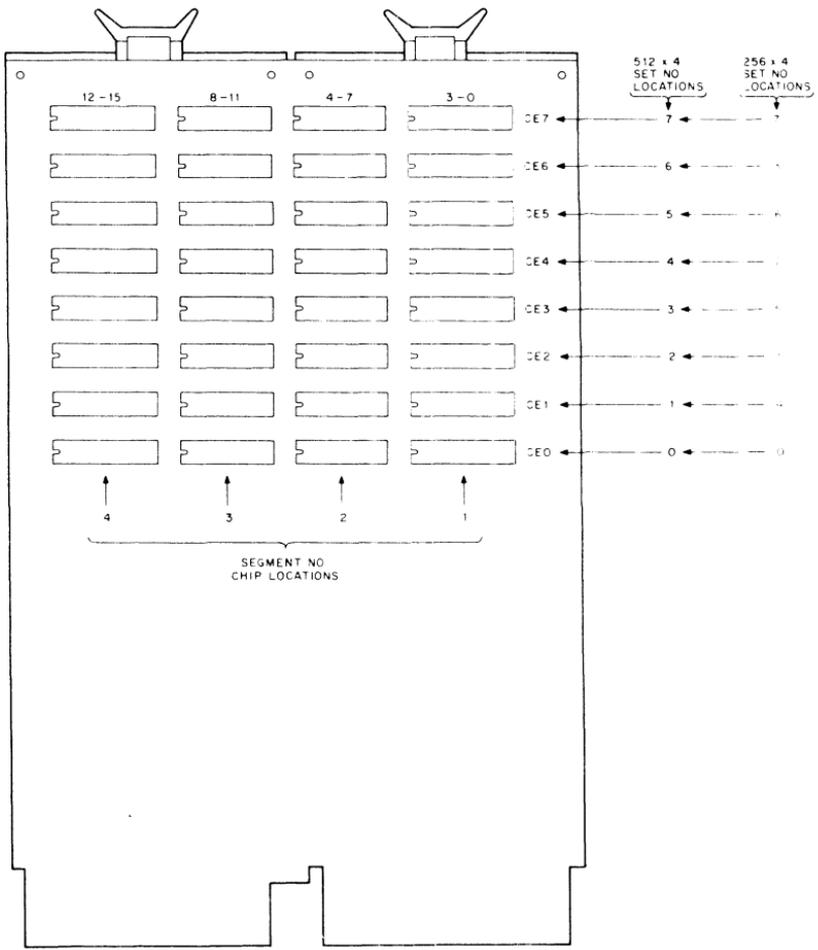

Figure 3-3 PROM Set and Segment Positions on the MRV11-AA Module
**3.3.2.4 Installing PROMs** – After PROMs are properly programmed, loaded, and verified, they can be installed on the properly configured MRV11-AA module (as described in Chapter 2). Refer to Figure 3-3 for proper location of PROMs. Observe that PROMs are always installed in sets of four—one for each segment. Segment and set numbers correspond to those indicated in the QJV11 PROM listing output.